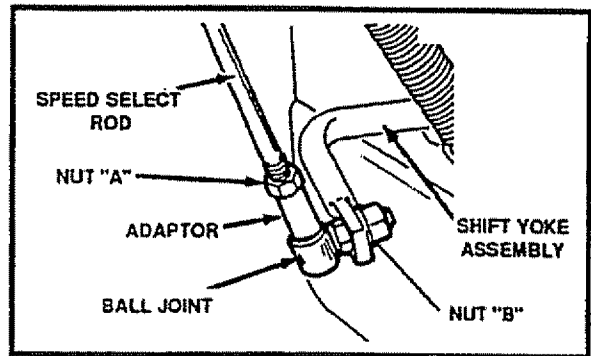

FIG. 31
- Loosen nut "A" on the speed select rod. Remove the ball joint by removing nut "B" from the shift yoke assembly. Lengthen or shorten the rod by turning the adaptor to obtain the correct friction wheel position (See Fig. 31).